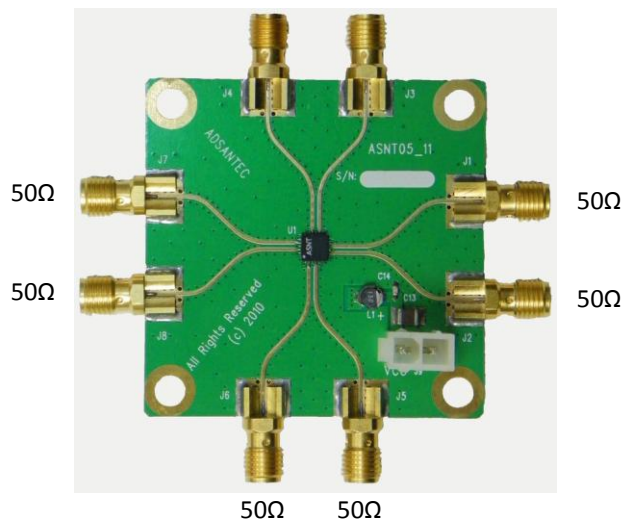

Fig. 2. Impedance of I/O Connectors
2. Measure the resistance of all connector pins to VCC, including the power supply, while making sure the board is grounded. All I/O ports should measure 50Ohms while on the power supply connector, VCC should be a short, and GND should be high impedance. Fig. 2 shows the resistance values of the described I/O connectors.